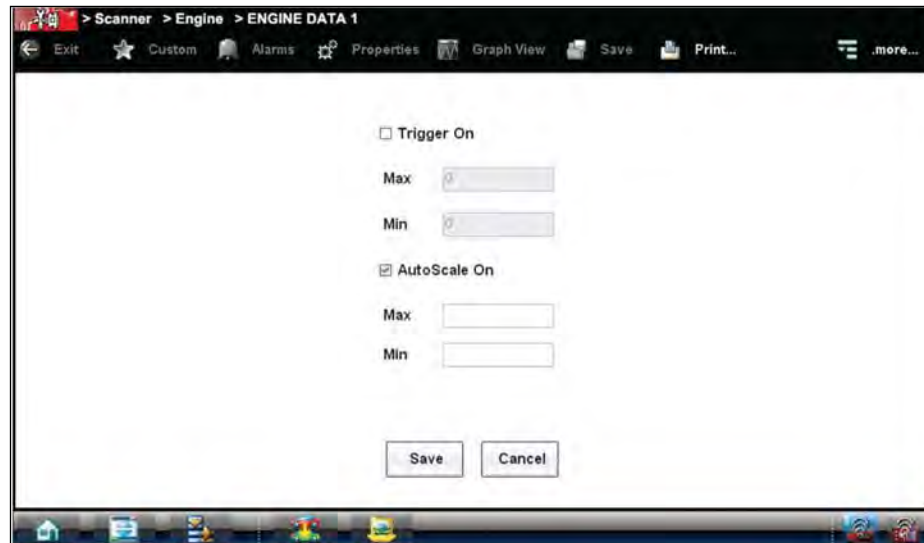

Figure 4-32 Sample manual scale selection
2. From the Graph Properties dialog box (Figure 4-32), select **Auto Scale On**.